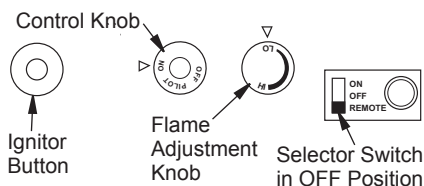

Figure 24 - Control Knob and Ignitor Button Location
4. Press in and turn control knob clockwise  to the OFF position (see Figure 24, page 19).
5. Wait five (5) minutes to clear out any gas. Then smell for gas, including near the floor. If you smell gas, STOP! Follow "B" in the safety information, page 18. If you don't smell gas, go to the next step.
6. Press in and turn control knob counterclockwise  to the PILOT position. Press in control knob for five (5) seconds (see Figure 24).